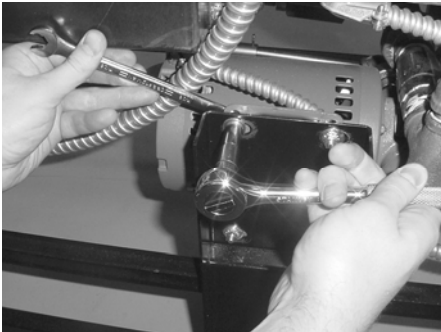

Figure 2-74
8. Using 9/16" socket or wrenches, remove the bolts and nuts securing the motor to the bracket and pull pump, motor, and piping from unit. Figure 2-74.